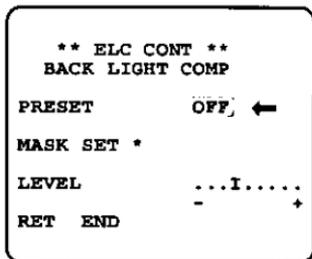

Fig. 41
- Move the cursor to the "PRESET" mode position and select the "OFF" mode by using the Left Switch (<) (7) and Right Switch (>) (6).
- The field setup menu is displayed on the monitor screen as shown in Fig. 41.
- Press the Set Switch (9) if this masking for this area is to be canceled.
- Press the Left Switch (<) (7) and the Right Switch (>) (6) simultaneously when all masking areas are to be canceled.
- After masking is completed, press the Set Switch (9) for more than 2 seconds. The 48 Mask Areas on the monitor screen disappear and the field setup menu as shown in Fig. 41 is then displayed.
- If the video output level (picture contrast) is to be changed, move the cursor to the "LEVEL" mode position and press the Left Switch (<) (7) and Right Switch (>) (6) to adjust the exposure time of the CCD image sensor. When the cursor is moved in the right (+) direction, the exposure time is increased, causing the video output level to rise. If the cursor is moved in the left (-) direction, the reverse takes place.